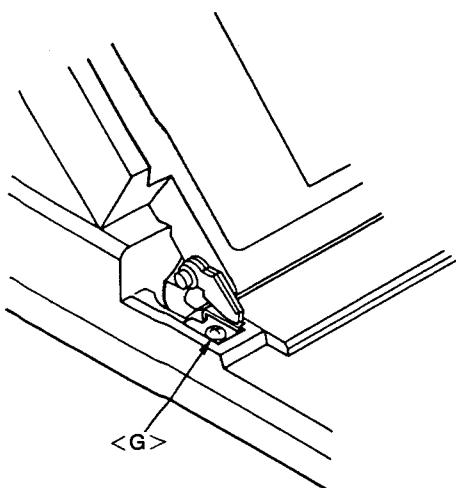

Figure 12
(17) Remove the front screw <G> ($3\phi \times 6\text{mm}$) as shown in Figure 12.